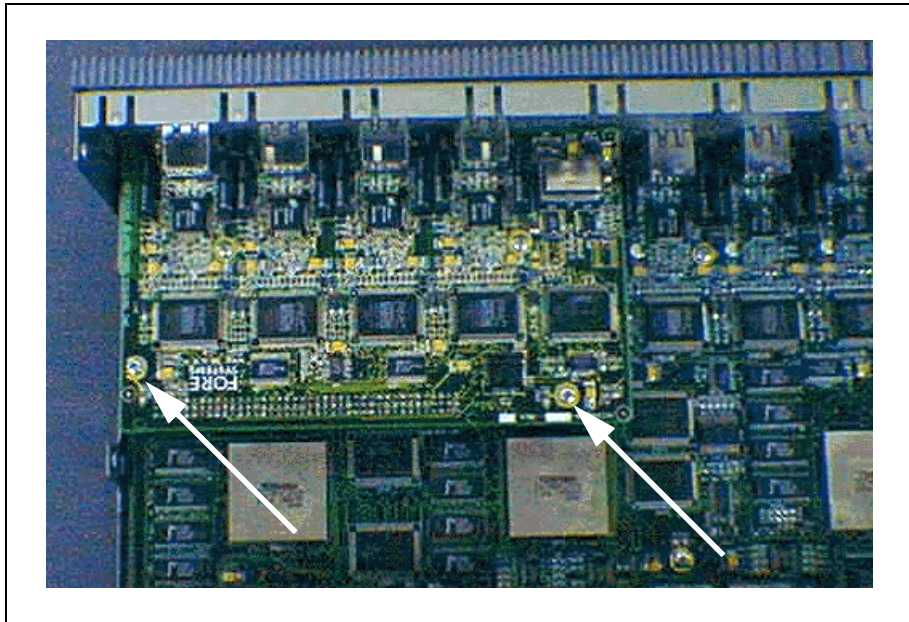

Figure C.8 - Secure the Module Using the Screws Provided
- e. Insert and tighten one of the pan-head screws from the kit into each of the standoffs in the middle of the module to secure it as shown in Figure C.8.